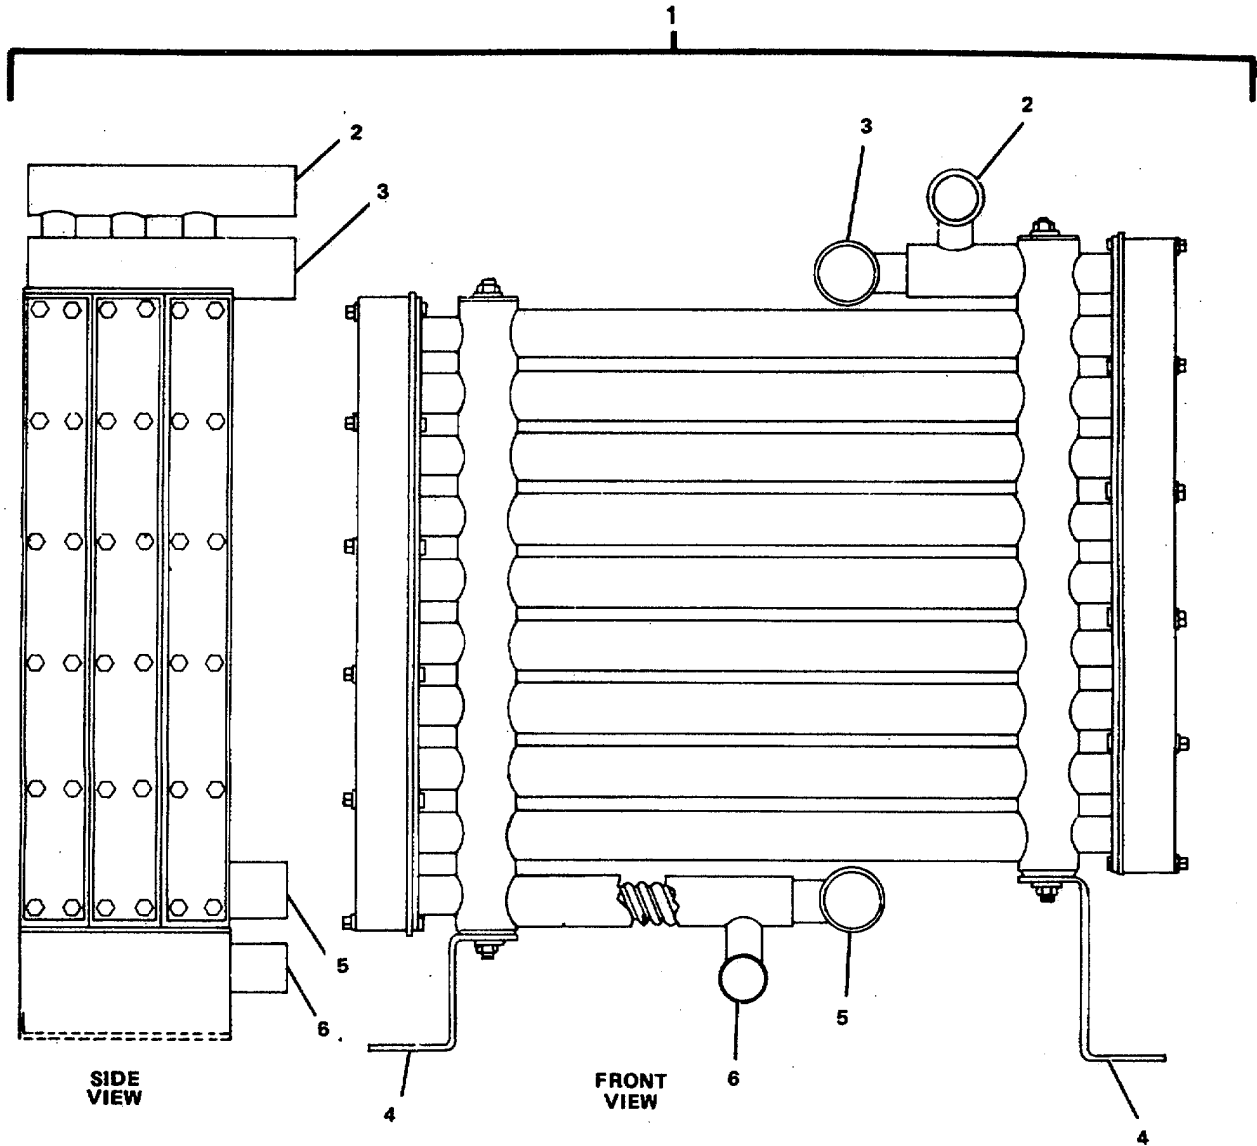

Figure 2-28. Condenser Unit (A/C-2. Accommodations).
- (1) Turn electrical power ON.
- (2) Start and run motor to check for proper operation.
- (3) Remove "Out of Service" tag from circuit.
**2-36. Replace Condenser, Refridgerating Water Cooled...(FIGURE 2-28)**